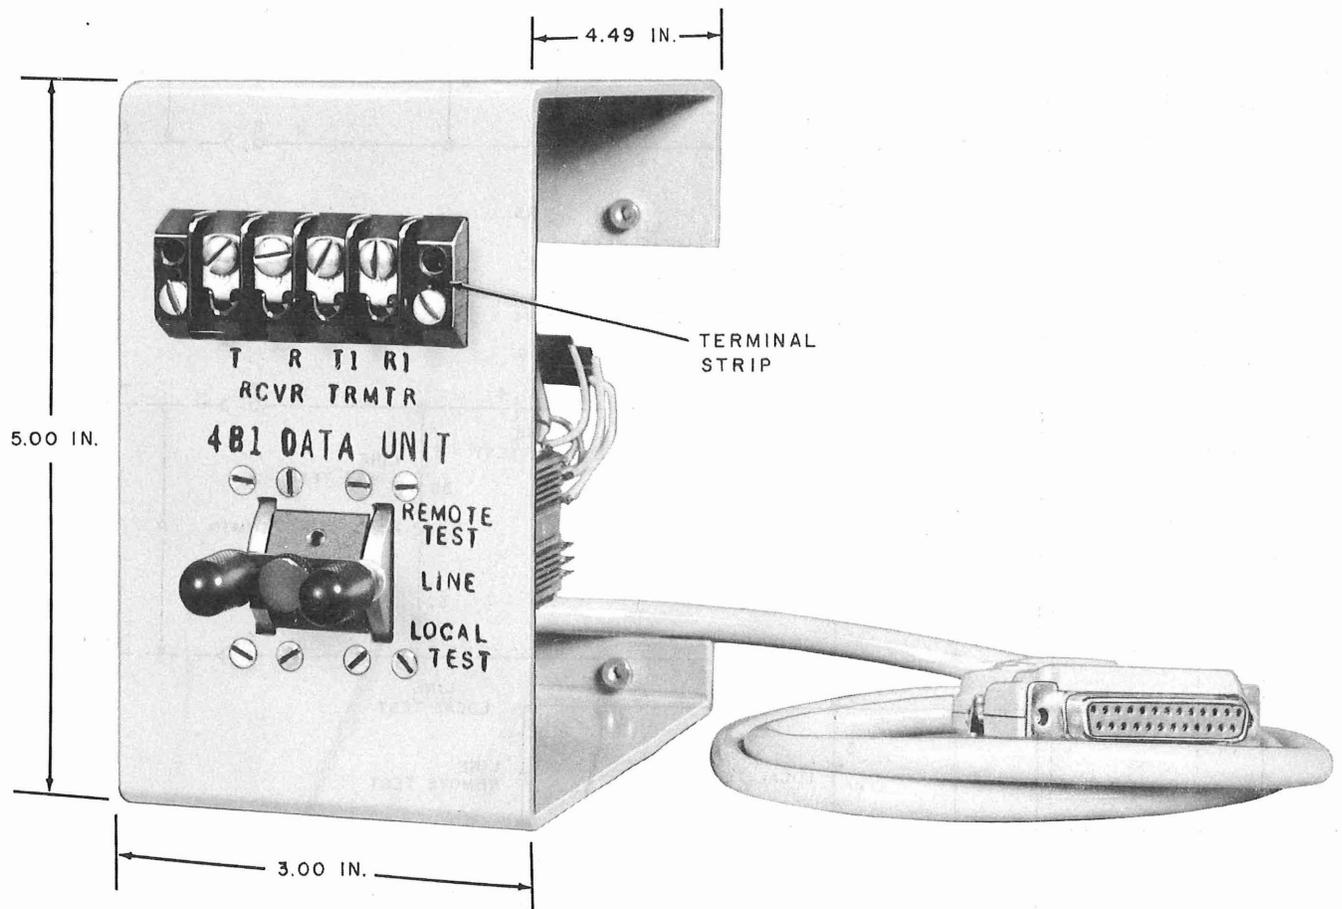

Fig. 1 — 4B1 Data Unit
1.01 This section contains information needed for the understanding of the function and operation of the 4B1 Data Unit (Fig. 1).